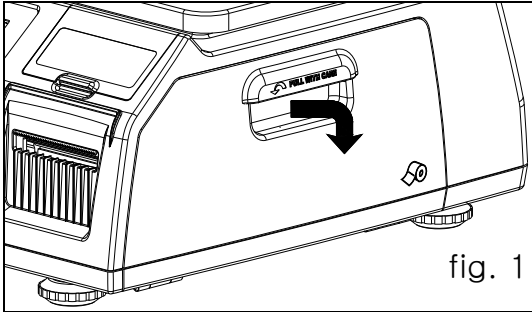

fig. 1
1) Press the **ON/OFF** key and make sure that the display is completely off. Open the printer's side-access panel. (See fig.1)